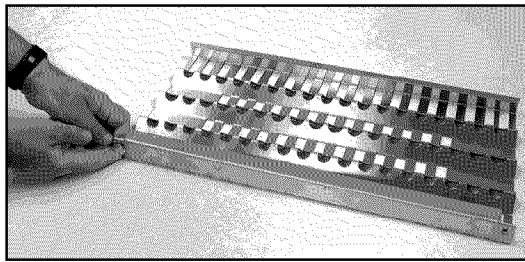

FIG. 22
2. Unlock radiant end cap by pushing it up with two fingers (Fig. 22).